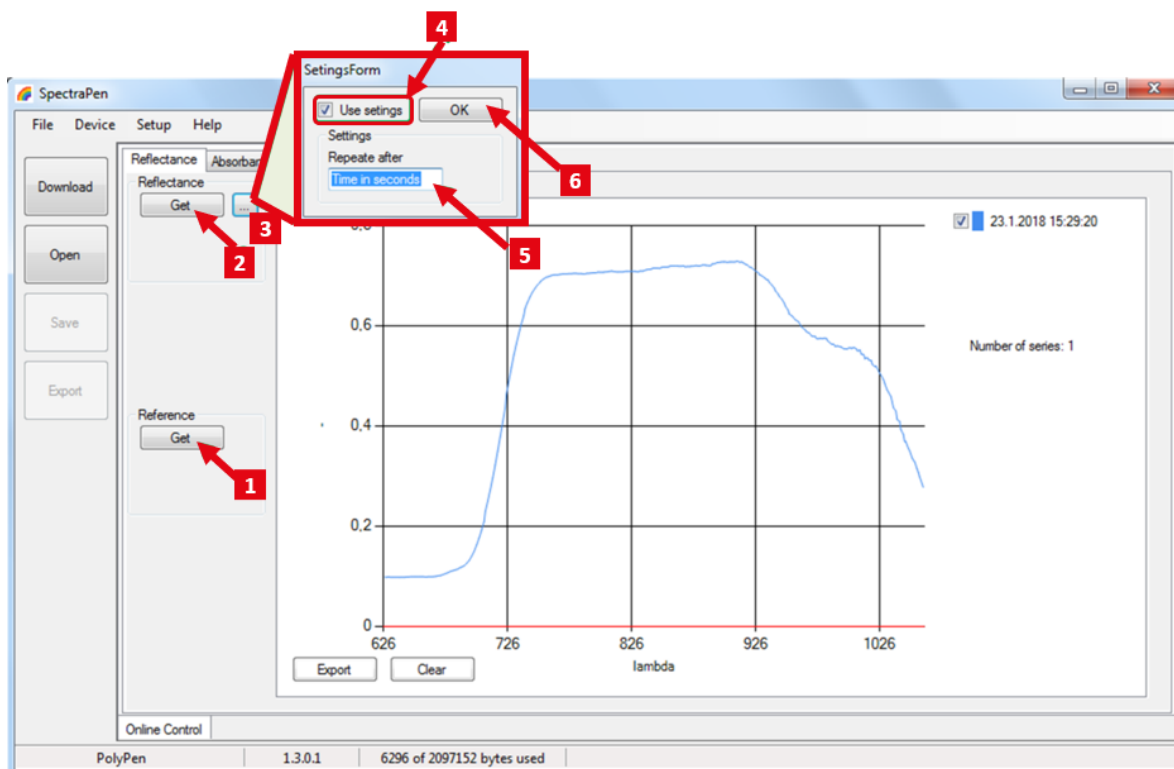

Fig. 36 Setting of reflectance or absorbance measurements in online control.
Remote measurement (Fig. 36)
- For manual remote measurement click on Get button (Fig. 36 - 1).
- Setting for automated remote measurement is possible using the button with three dots (Fig. 36 - 3). Here the time interval (Fig. 36 - 5) of the measurement is set. To apply this setting use the option Use settings (Fig. 36- 4) and confirm by clicking OK (Fig. 36 - 6). The measurement starts immediately and continues until it is manually stopped (Stop button).